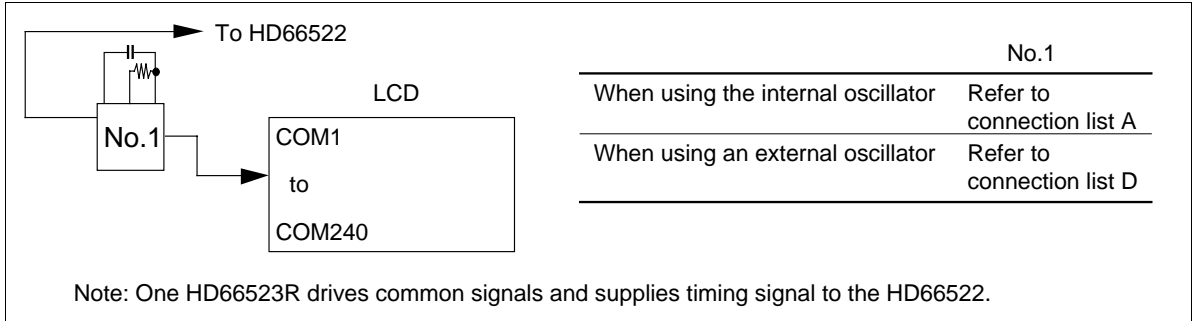

Figure 5 System Configuration When Using a Single HD66523R
The HD66523R system configuration is outlined in Figure 5 and 6. Refer to the connection list (Table 4) for connection details.
- When a signal HD66523R is used to configure a small display (Figure 5)